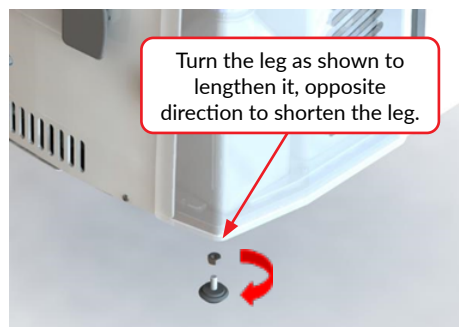

Figure 2.10 ME220 Leg Height Adjustment
- Lengthen or shorten both legs on the right side of the instrument an equal amount, as in **Figure 2.10**, until the bubble is centered in the leveling fixture sight glass.